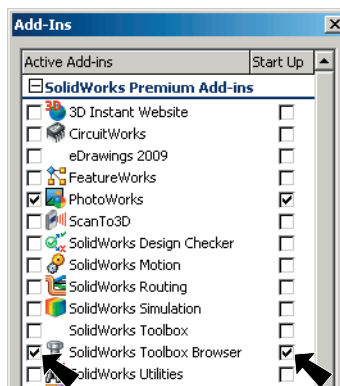

Fig. 2
Step 2. Check **SolidWorks Toolbox Browser** to place a check in the check box, then click OK, **Fig. 2**.